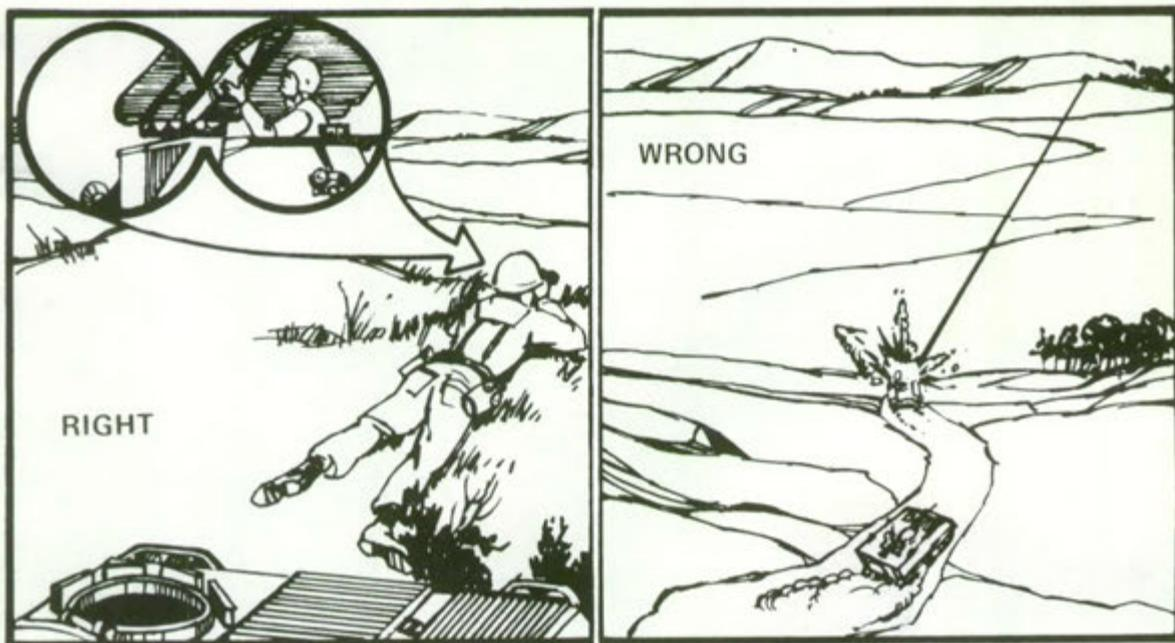

Figure 5.
e. If you must cross an open area, check it first then, **CROSS IT QUICKLY**. When you must cross an open area (emerge from a woodline, cross a ridge, etc.), carefully check out the area for possible enemy positions before you emerge from cover (figure 5). If enemy locations are identified or suspected, suppress or smoke them prior to crossing. **CROSS THE OPEN AREA AS RAPIDLY AS POSSIBLE FROM COVERED POSITION TO COVERED POSITION**. (If you are exposed for less than 30 seconds, it will be extremely difficult for an enemy ATGM gunner to acquire, fire, track, and hit you at a long range.)